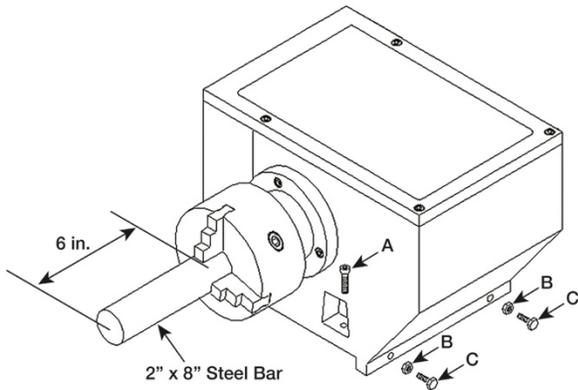

Figure 14-3: Headstock Alignment
3. Place two inches of bar stock into chuck and tighten chuck (see Figure 14-3). Do not use the tailstock or center to support the other end.
6. If the measurements are not the same and adjustment is required, loosen the four bolts (A, Figure 14-3) that hold the headstock to the bed. Do not loosen completely; some drag
7. Loosen two hex nuts (B, Figure 14-3) found on the two adjusting bolts located on the backside of headstock. Adjust the bolts (C, Figure 14-3) for alignment and tighten hex nuts. Tighten the headstock bolts and make another cut. Keep adjusting screws after each cut until the bar stock measurements are the same. Tighten all headstock bolts and jam nuts on adjusting screws.